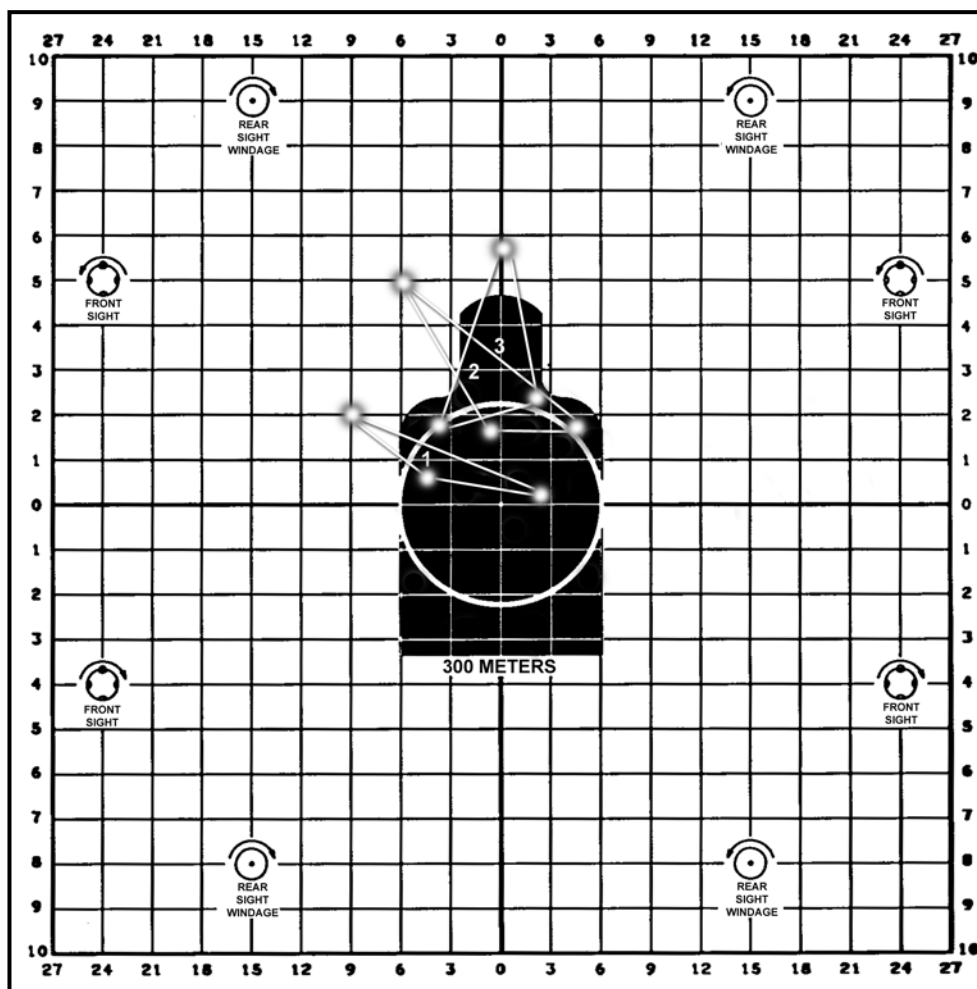

Figure 5-15. Shot groups with improper vertical placement.
(5) ***Shot Groups with Improper Vertical Placement.*** The shot groups shown in Figure 5-15, when viewed as nine shots, reflect proper horizontal placement of shots but unsatisfactory vertical dispersion. This indicates a failure to vertically aim at target center of mass for each shot. The soldier's aiming procedure is checked along with other marksmanship fundamentals.